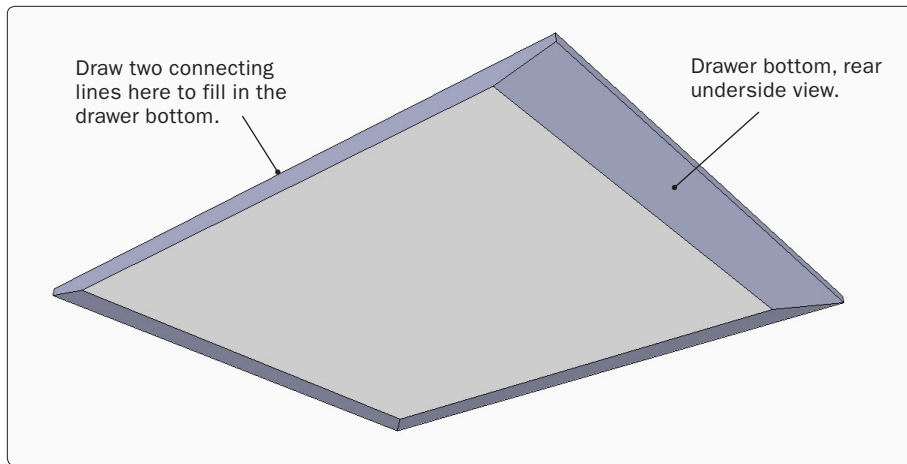

Figure 70. Add lines to finish shaping the drawer bottom.
Step 57 Copy the bevel-edge component and move it away from the assembled drawer. Then draw lines to fill in the center of the drawer bottom (Figure 70).